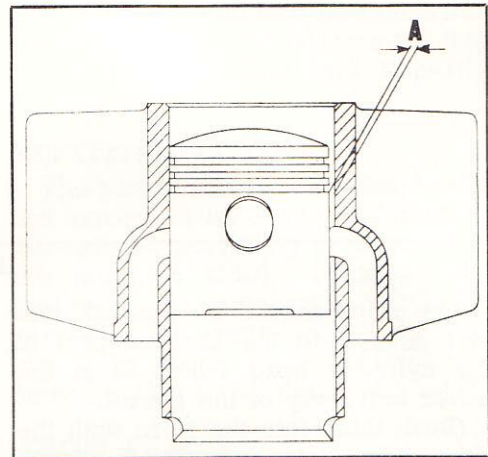

Fig. 25
The clearance between cylinder and piston (A) (see Fig. 25) when new, is between 0.0035" and 0.0045". Maximum permitted clearance is 0.008".